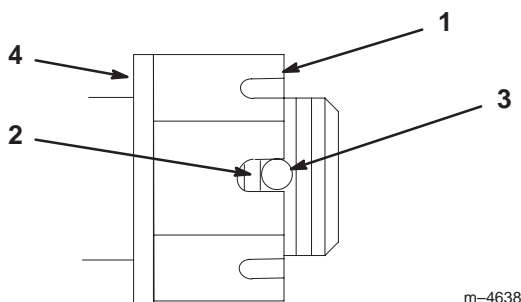

Figure 48
3. Torque slotted nut to 125 ft.-lb. (169 N•m) (Fig. 48).
4. Check the distance from bottom of slot in nut to inside edge of hole. Two threads or less should be showing (Fig. 48).
5. If more than two threads are showing remove nut and install washer between hub and nut (Fig. 48).
6. Torque the slotted nut to 125 ft.-lb. (169 N•m) (Fig. 48).
7. Tighten nut until the next set of slots line up with the hole in the shaft (Fig. 48).